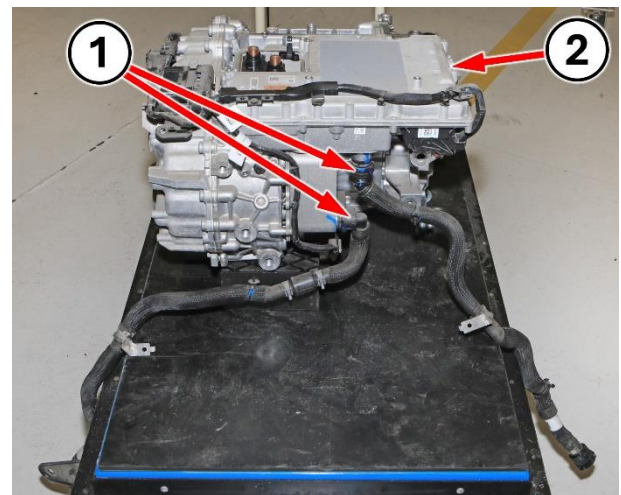

Figure 43 – Coolant Hoses
85. Remove the coolant hoses from the EDM (Figure 43).
89. Install the coolant hoses to the **NEW** EDM (Figure 43).